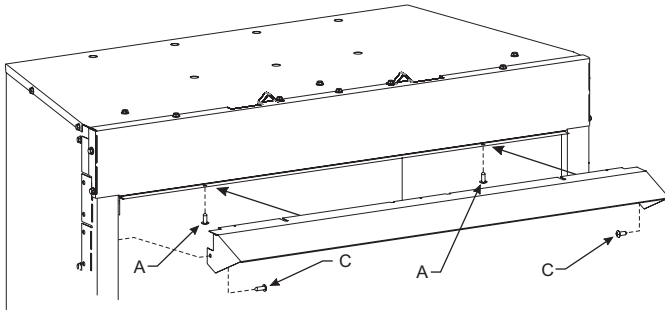

Figure 17
1. Loosen the two screws (A) holding fireplace top to face panel, then slide the hood flange between the fireplace top and face panel and re-tighten the screws. **See Figure 17.**
2. Install one screw at each end of the hood as shown (B). **See Figure 17.**